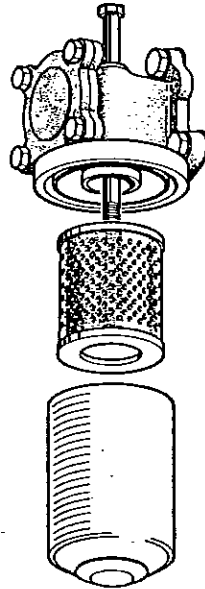

Fig. 21. Oil Filter
2. Unscrew oil filter centre bolt (fig. 21).